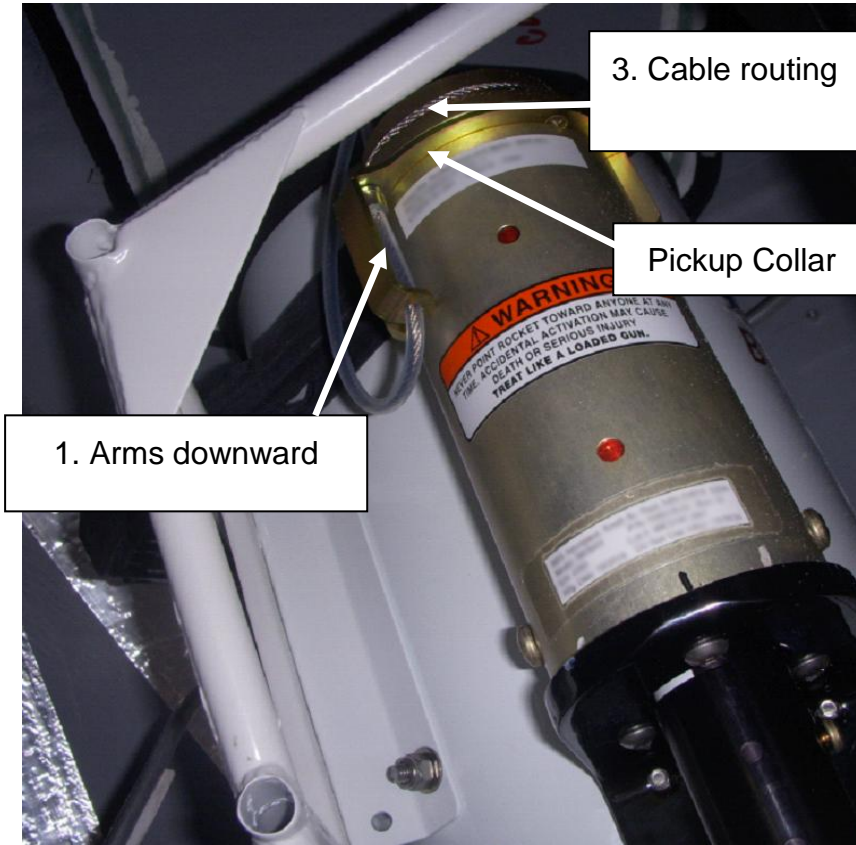
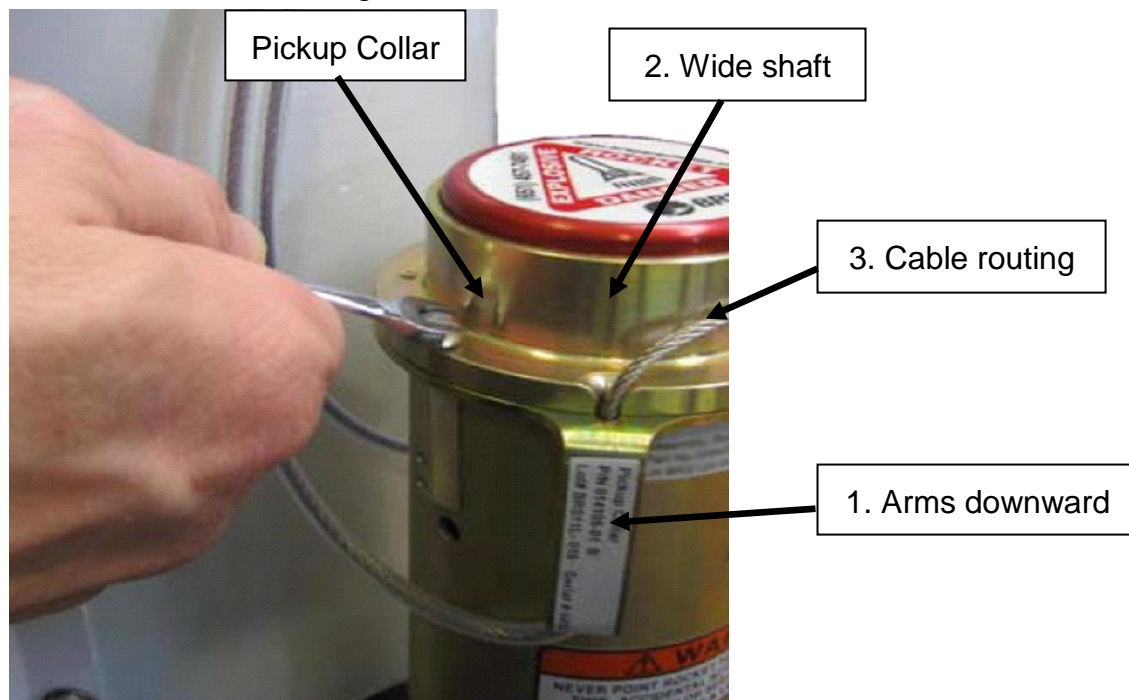

Fig. 1
Fig. 2 – CORRECT installation of the pickup collar
Fig. 1 shows the correct extractor installation. The component that slides over to top of the extractor, and is attached to the launch tube with two aluminum screws from the top, is called the pickup collar.
Fig 2 shows an Extractor prior to installation to the aircraft, where the correct orientation is visible. The labels identify the installation details to be checked during this inspection.
The following facts must be verified, see Fig. 2 showing the items with the same numbering as indicated in the following checklist:
1. The pickup collar is installed as shown on Fig. 1, with the two arms guiding the steel cables towards the AEPS harness pointing **downwards**. See Fig. 2 for additional reference.
2. The pickup collar installed to the top of the extractor has a long shaft, that covers the extractor as such nearly up to the red tip of the extractor, as shown on Fig. 2